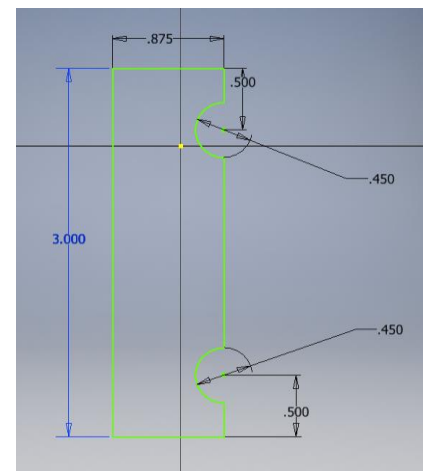

Figure 14 – Mallet Head Sketch
- Your sketch should look like Figure 14